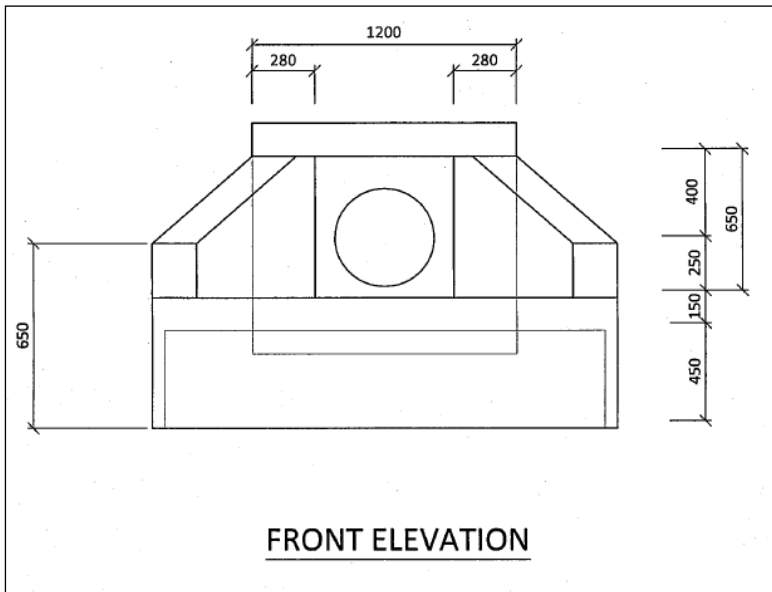

Figure 28: Typical Concrete Headwall Detail (Front Elevation)
- Figure 28: Typical concrete headwall detail (Front Elevation).